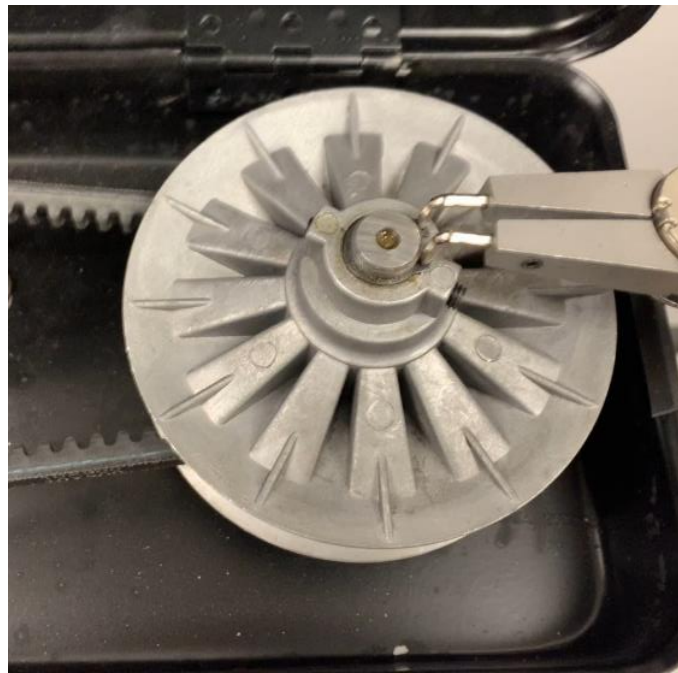

Figure 2. Removing the Circlip
2. Remove the circlip at the top of the motor pulley assembly using circlip pliers as shown in Figure 2.